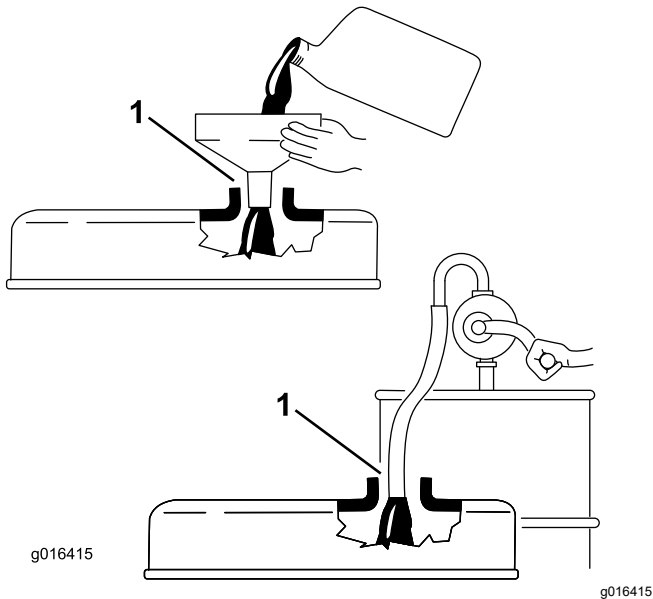

Figure 31
**Important:** Remove the dipstick while filling the engine with oil. When adding engine oil or filling oil, there *must be* clearance between the oil fill device and the oil fill hole in the valve cover as shown in Figure 31. This clearance is necessary to permit venting when filling, which prevents oil from overrunning into breather.